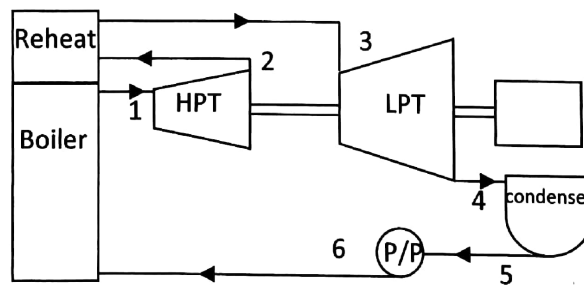

Fig Q4
4. A steam power plant using a reheat cycle is shown in Fig Q4.